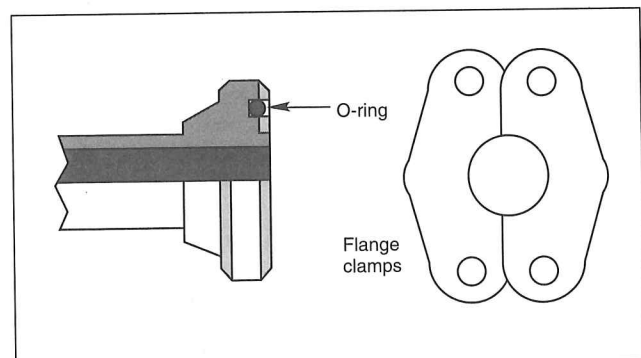

Fig. 9-29. An elastomeric O-ring in a flange fitting mates with the flat machined surface of a pump, valve, or housing.
**SAE flange.** The couplings are available in two domestic styles: Code 61 for 3,000 to 5,000 psi service (depending on size) and Code 62 for 6,000 psi service. In both, an elastomeric O-ring set in a groove on the flange mates with the flat machined surface of a pump, valve, or housing, Fig. 9-29. Four small mounting bolts attach the flange to the port.